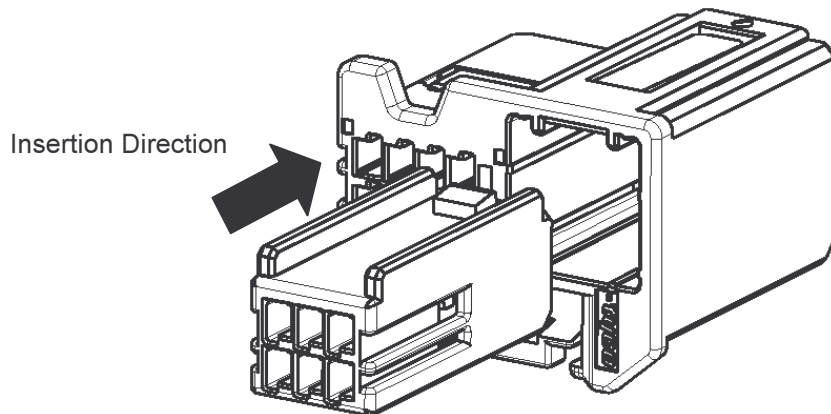

Fig.15
- (3) Insert the 6Pos. female housing into the 8Pos. female housing straight with notice direction as shown in Fig.15. The operation is finished when you hear the click sound and can not insert further. When you can not insert the housing, do not insert by force, and check the items in (1), (2), (3).